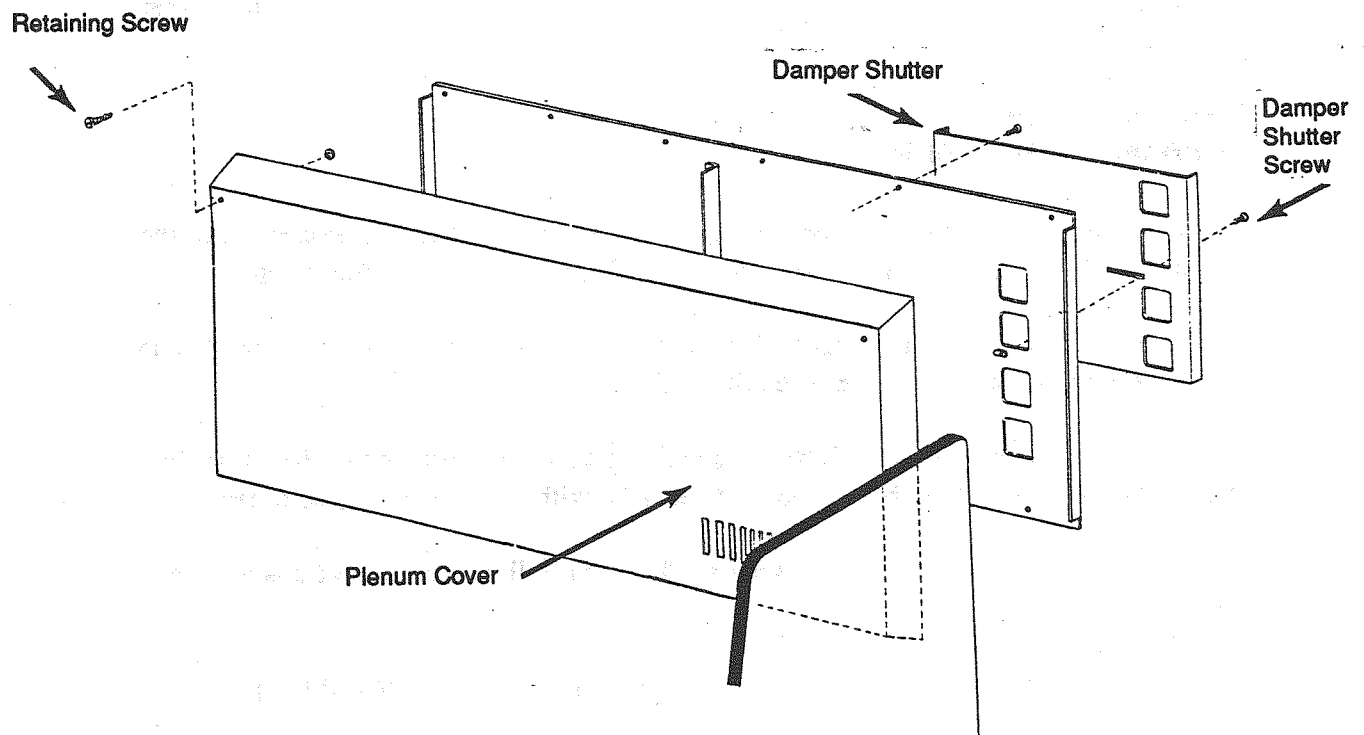

Figure 6
- (1) Loosen the two retaining screws located near the top at each side of the plenum cover. (See Figure 6)
- (2) Grasp both sides of the plenum cover and rotate it down to rest on the work surface.
- (3) Loosen the damper shutter screws, by the use of a phillips screwdriver, and adjust the damper shutter open or closed, depending on your airflow situation.